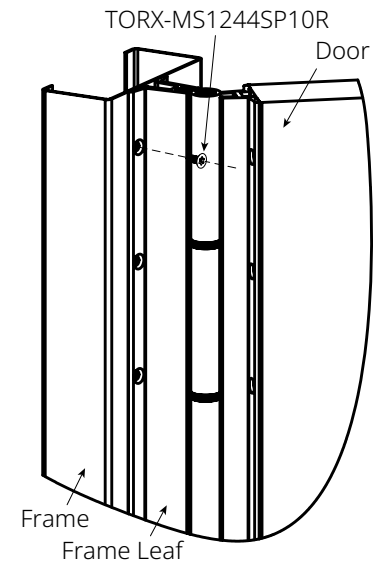

Fig. 5
- B. Attaching hinge to frame (Fig 5):
Install screws to attached hinge to frame using T-25 driver (Fig. 5).